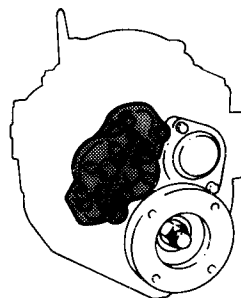

Fig. 5. Oil Pump Mounting — clockwise engines
- Fig. 5 Oil pump mounting - clockwise engines